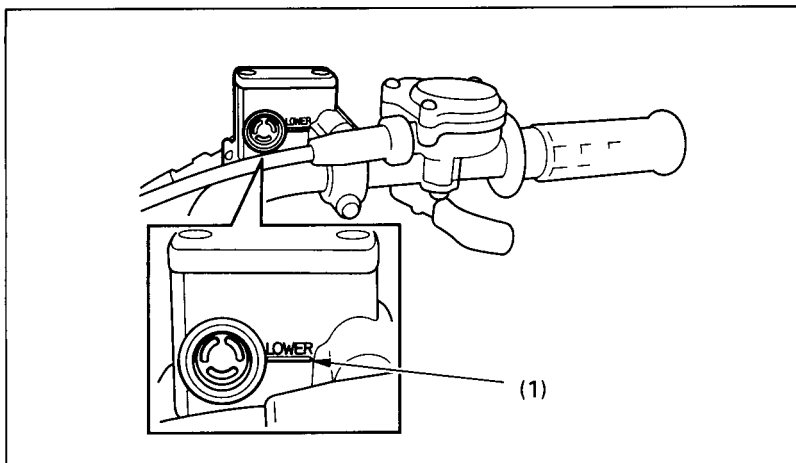

Fig. 4-26
Brake fluid must be added to the reservoir (Fig. 4-26) whenever the fluid level approaches the lower level mark (1). Use only DOT 3 or 4 brake fluid and have it added by an authorized Honda dealer.